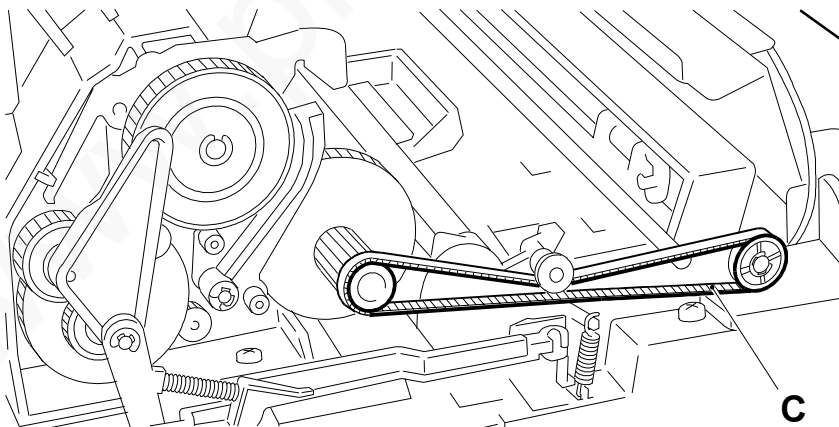

Fig. 7-45
- 2) Disconnect belt **C** of the driver rollers (Fig. 7-45):